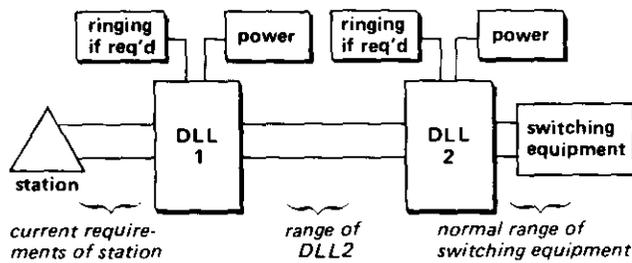

figure 4. Tandem DLL range limits
2.07 When the 7501 is operated in tandem with other DLL's (see figure 4), the maximum distance from the station to the nearest (first) DLL is determined by the current requirements of the station. The maximum distance from the first DLL to the next (second) DLL is determined by the station-side-range of the second DLL, and so on. The maximum distance from the last DLL to the switching equipment depends upon the range of the switching equipment.